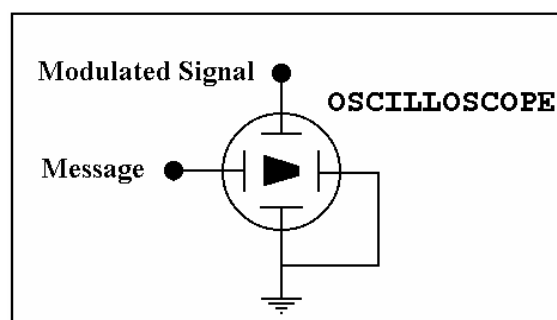
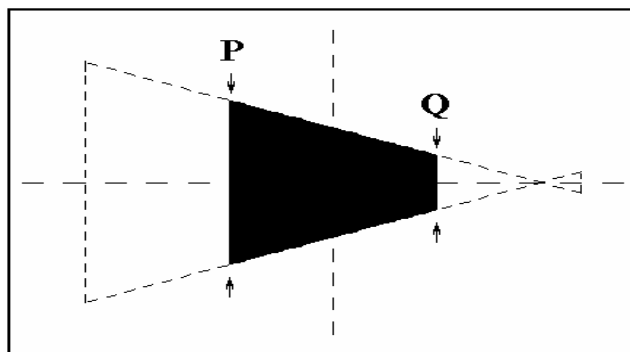

Figure 8: the arrangement for producing the TRAPEZOID
Figure 9: the AM trapezoid for $m = .5$. The trapezoid extends into the dotted section as m is increased to 1.2 (120%).
The so-called *trapezoidal display* is a useful alternative for more complex messages. The patching arrangement for obtaining this type of display is illustrated in Figure 8 below, and will now be examined.
T15 patch up the arrangement of Figure 8. Note that the oscilloscope will have to be switched to the 'X - Y' mode; the internal sweep circuits are not required.
T16 with a sine wave message show that, as m is increased from zero, the display takes on the shape of a **TRAPEZOID** (Figure 9).
T18 show that, for $m > 1$, the **TRAPEZOID** extends beyond the **TRIANGLE**, into the dotted region as illustrated in Figure 9
- Q2** explain how the arrangement of Figure 8 generates the TRAPEZOID of Figure 9, and the TRIANGLE as a special case.*